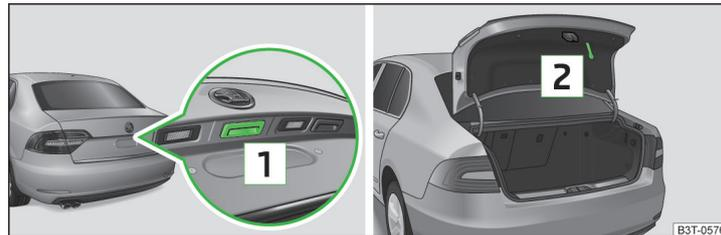

Fig. 38 Handle of boot lid/opened small boot lid
► Press the button in the handle at the lower edge of the boot lid **1** » Fig. 38 and lift the boot lid.
► Pull down and strike the lid with the handle **2** » Fig. 38.